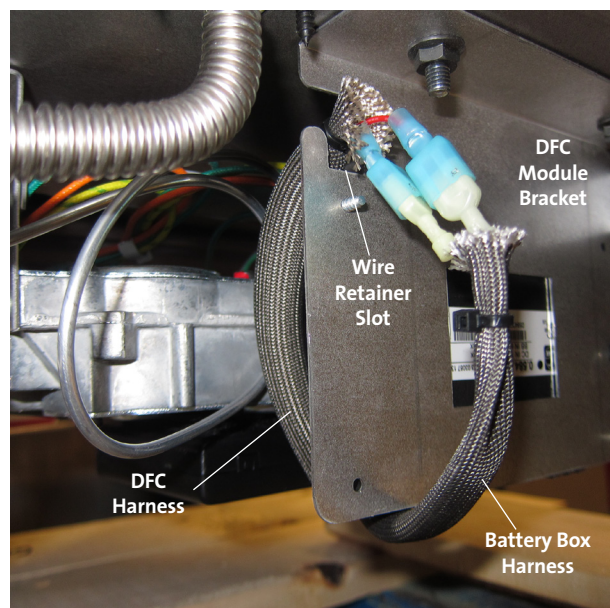

Figure 47.
2. Access the battery box from under the gas valve. See fig. 47 and 48a. Disengage the wire harness from the retainer slot on the back of the DFC bracket. Disengage the battery box from the hook & loop tape.